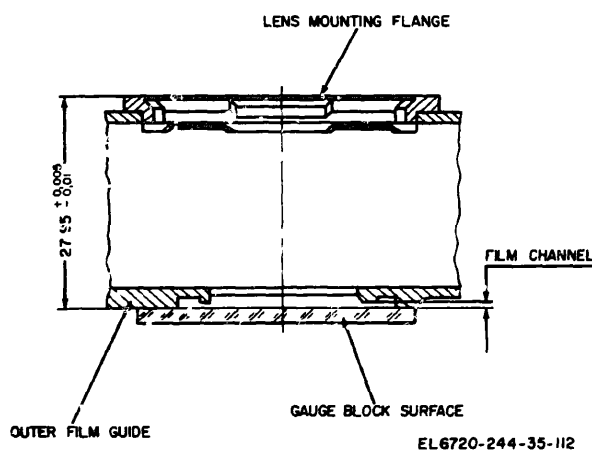

Figure 4-1. Film plane measuring points.
- b. *Riveted Studs and Lugs.* Replace damaged positioning stud (41), baseplate stud (42), and neck strap lugs (43).
- c. *Frame Selector Mechanism.* Replace damaged frame selector lever (29), spring (33), and front sliding bar (37).
- (1) *Light sealing strips* Replace damaged light sealing strip (26), and felt strips (27).
- (2) *Lens mounting flange.* Replace damaged lens mounting flange (23), spring (253, and adjust as follows:
- (b) Place the camera on the gauge block with mirror surface (part of gauge set No. 56), and position the outer film guides on the mirror surface (fig. 4-1).